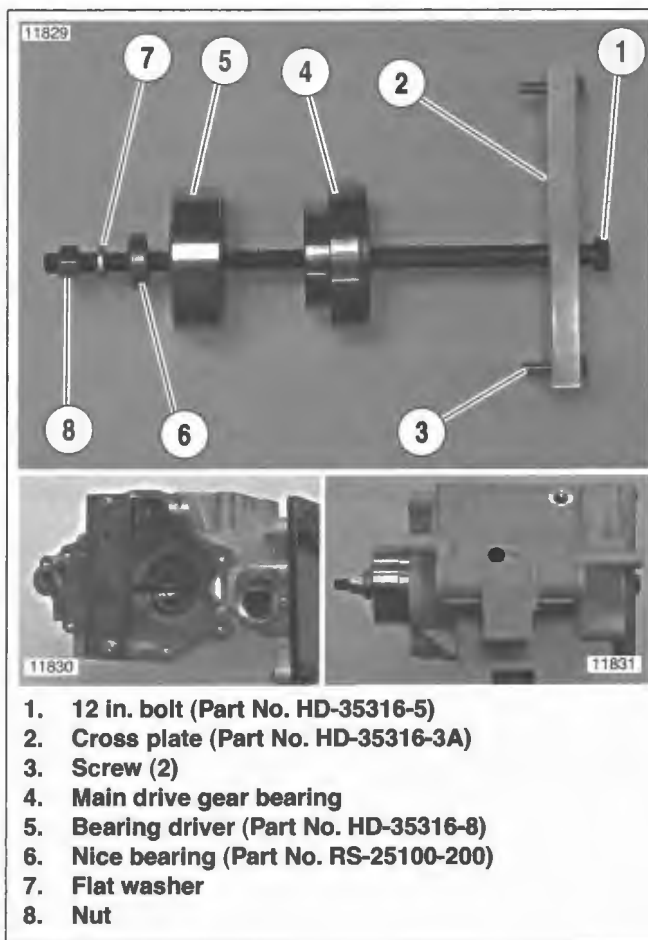

Figure 7-46. Installing Main Drive Gear Bearing—Typical
1. See Figure 7-46. Place CROSS PLATE (Part No. HD-35316-3A) (2) on right side of transmission case as shown, and secure with two screws (3). Position cross plate so that large bolt hole in cross plate is lined up with center of main drive gear bearing bore in left side of transmission case.
2. Insert 12 IN. BOLT (Part No. HD-35316-5) (1) through cross plate and main drive gear bearing bore.
3. At outside of case, place main drive gear bearing (4), BEARING DRIVER (Part No. HD-35316-8) (5), NICE BEARING (Part No. RS-25100-200) (6), FLAT WASHER (7) and NUT (8) over end of bolt.